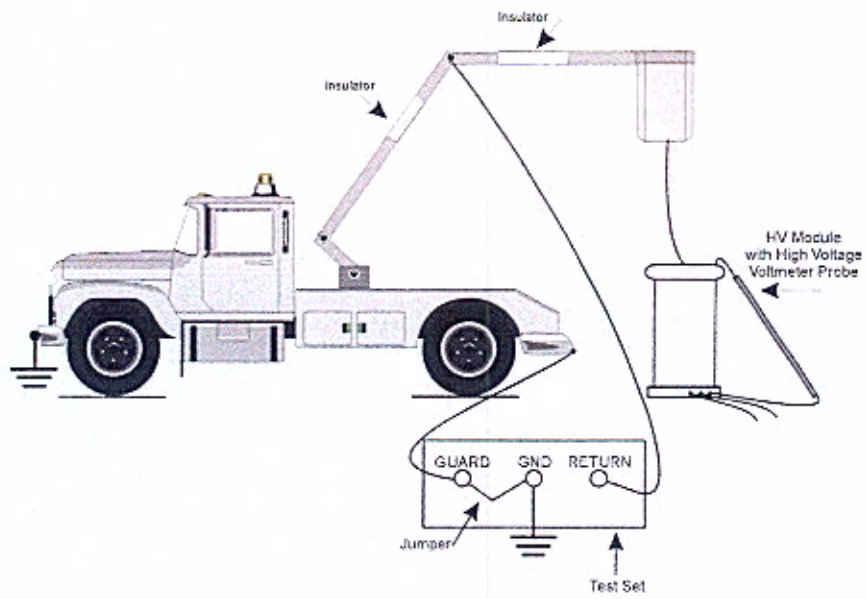
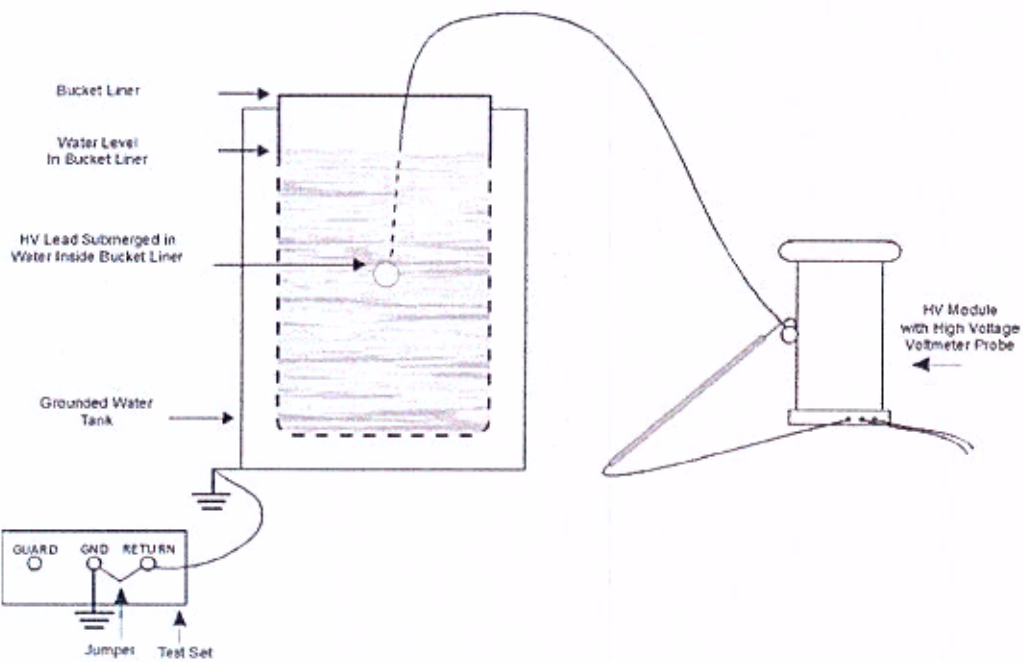

Figure 6 ANSI Test on the Upper Insulated Arm of a Double Insulated Boom Truck
Figure 11 Flashover Test on Bucket Liner in Water
1. Connect the low end of the test sample to ground with a conductor large enough to carry the rated output current of the system. Connect the high end of the test sample to the output bushing of the transformer. In general, aluminum or copper pipe is the most suitable material to use for this purpose. Use a minimum size of 1 inch OD per 100 kV. Keep all surfaces smooth and free of any sharp edges. Figures 6, 7, 8, 9, and 10 detail the connections to boom trucks. Figure 11 depicts a flashover test on a bucket liner in water.